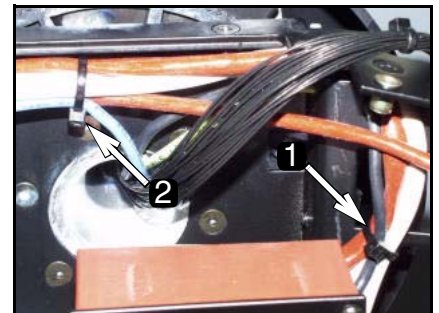

Fig. 51. Tie starter wires
- 14 Gather the white lamp wires together with the black and blue starter wires and tie them to the chassis at point 1 in Fig. 51. Tie the wires that lead to the back at point 2.